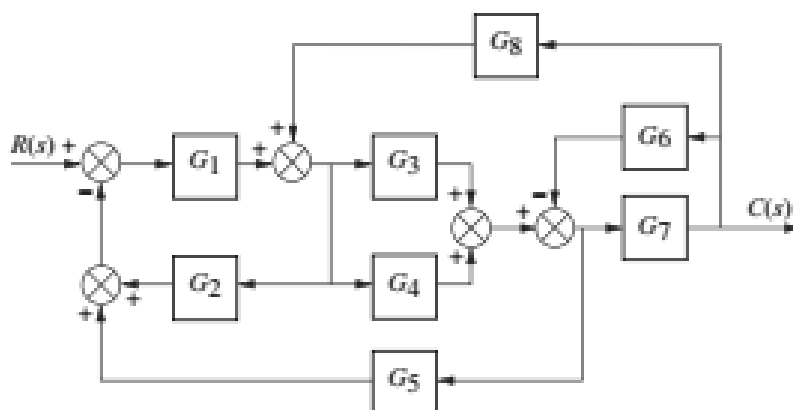

FIGURE P5.5
5. Find the transfer function, $T(s) = C(s)/R(s)$, for the system shown in Figure P5.5. Use the following methods: